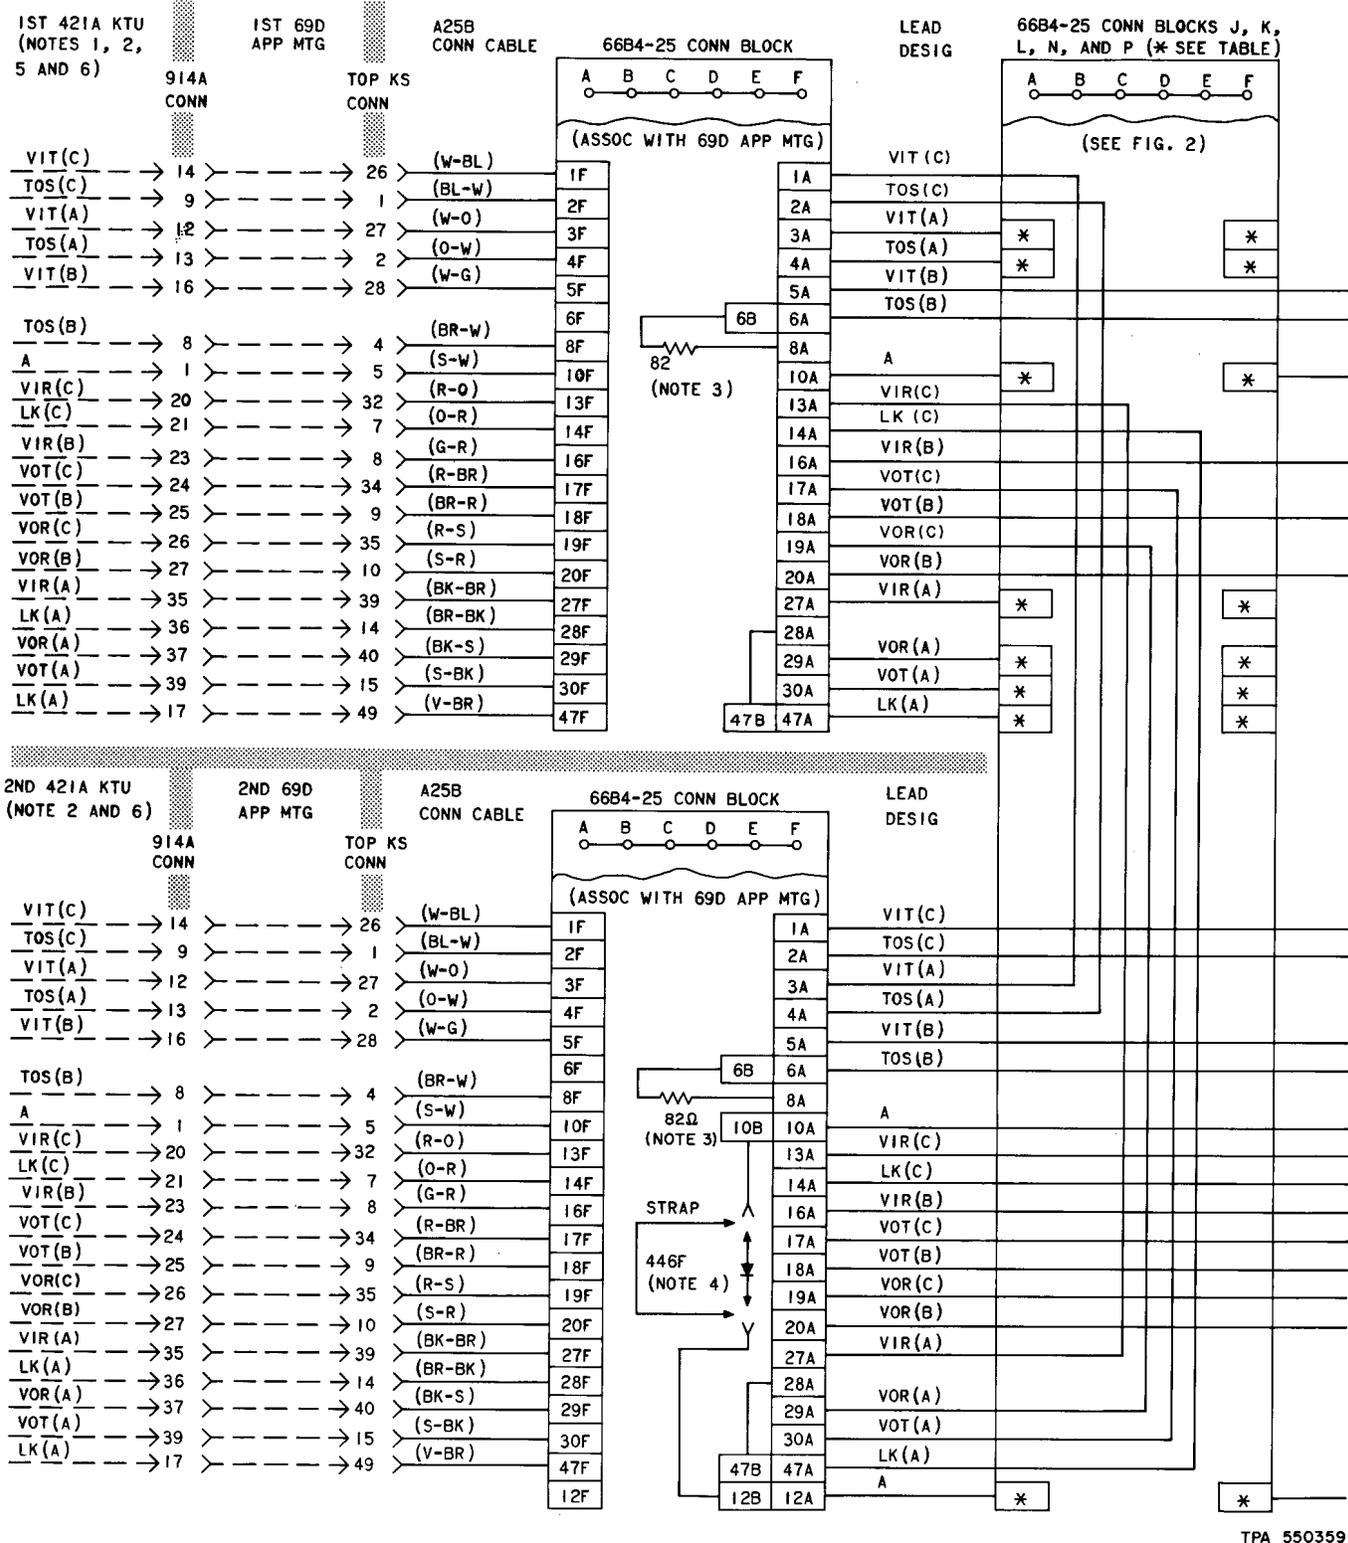

Fig. 12—Connections for Video and Audio Station Bridging Using Two Externally Mounted 421A KTUs (Sheet 1)
6. SEE FIG. 12 WHEN 421A KTU CONNECTIONS (VIDEO-AUDIO STATION BRIDGING) ARE REQUIRED WITH INTERCOM ADD ON CONFERENCE.